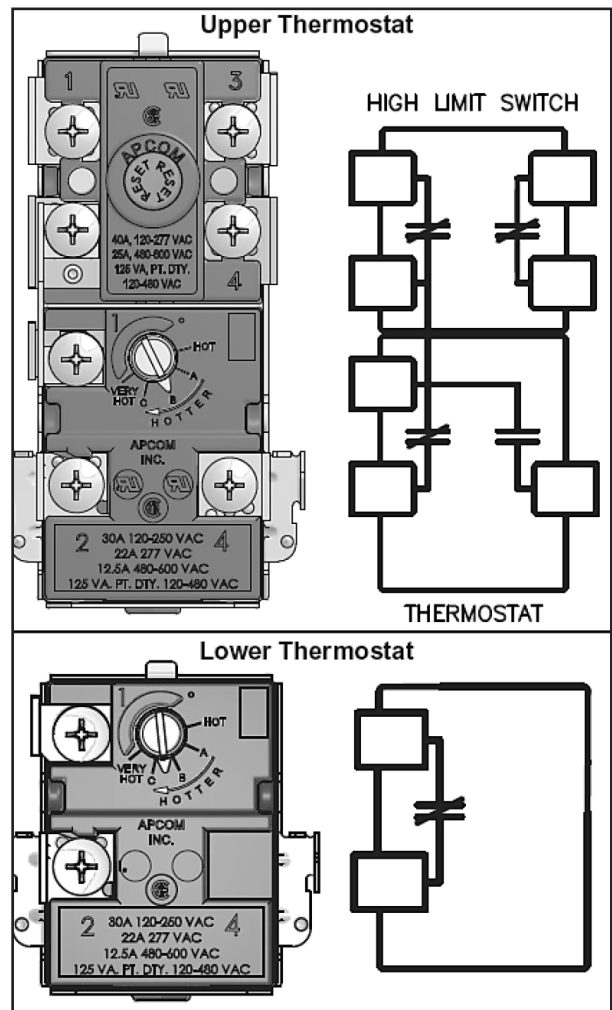

Figure 22 - Thermostat Detail
This water heater is equipped with a combination thermostat and high limit reset control (ECO) that is located above the upper heating element. If for any reason the temperature of the water becomes excessively high, the ECO will break the power circuit to the heating element. Once the control opens, it must be reset manually. See Figure 22.
3. Press the red reset button. See Figure 22.